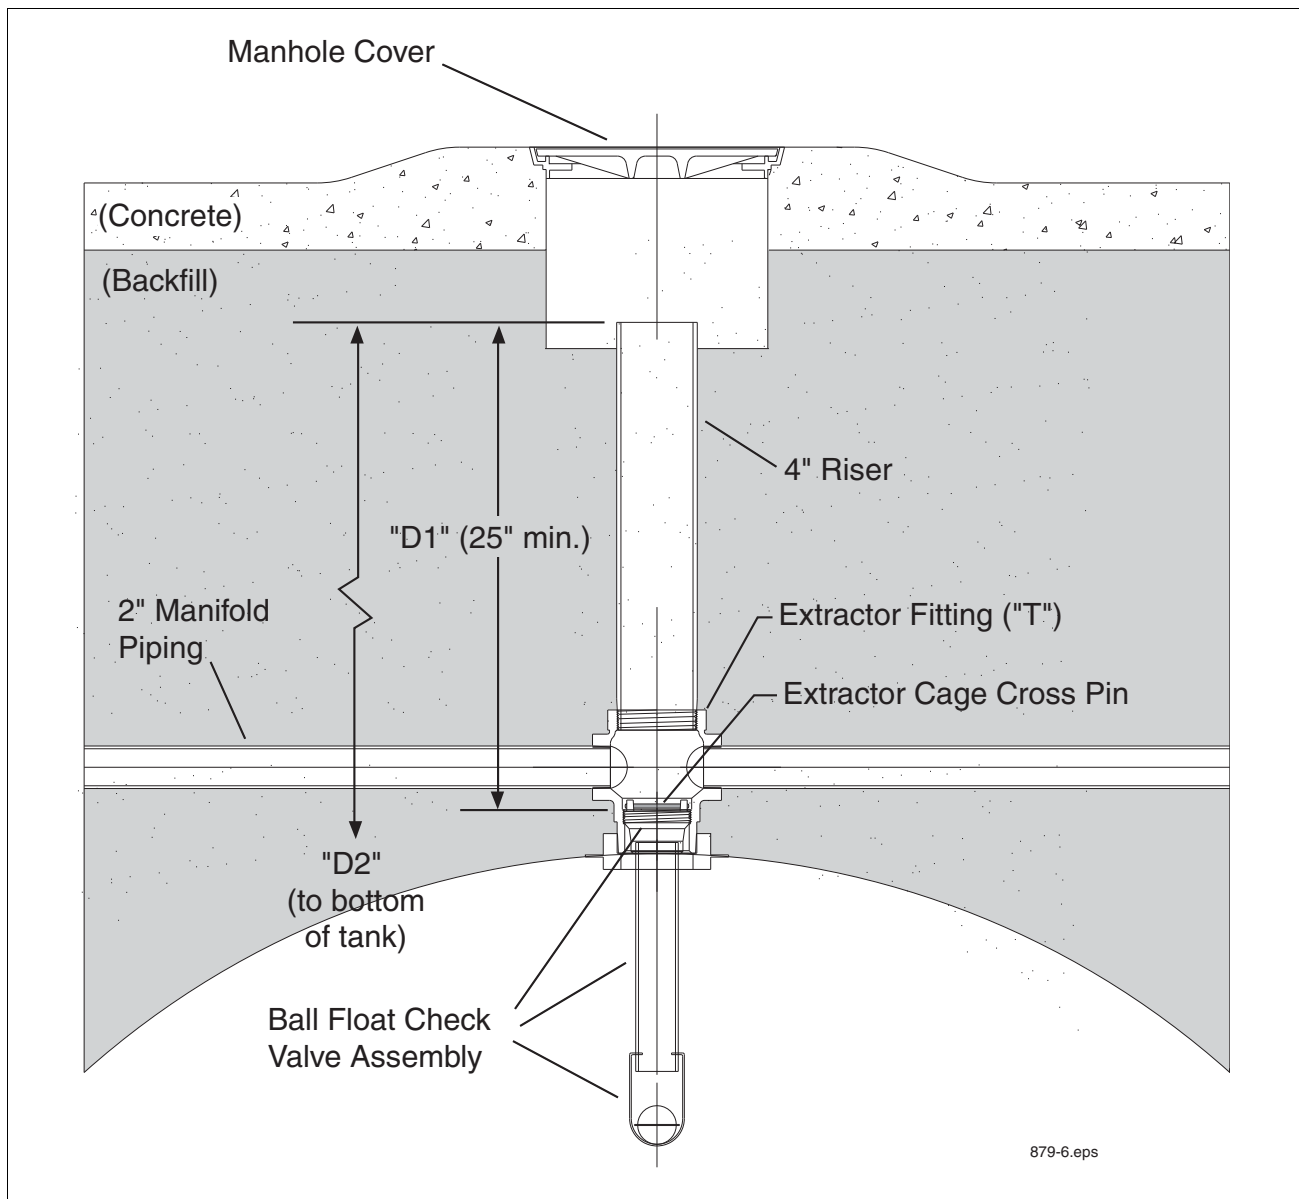

Figure 5. Determining Mag Probe length for installation in a vapor extractor riser
1. Measure the distance from the top of the riser to the Extractor Cage Cross Pin (see Figure 5). Record this distance as "D1" (Important - Dimension "D1" must be at least 25 inches).
2. Use the extractor wrench tool (OPW Part Number: 89-0044) to remove the Ball Float Check Valve and Extractor Cage inside the bottom of the 4" riser (ref. Figure 5 on page 15). Important! - Ball Float Check Valve and Extractor Cage may be difficult to remove; **use caution**.